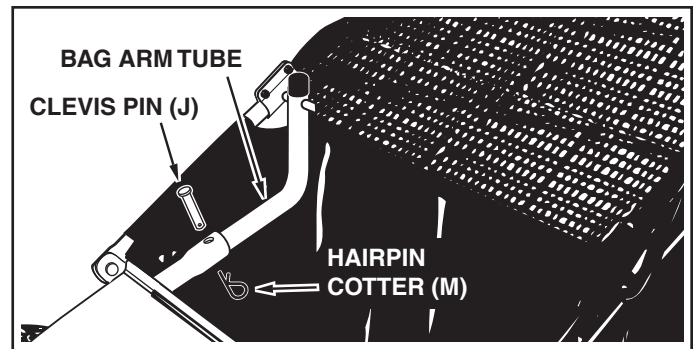

FIGURE 20
STEP 22: (SEE FIGURE 20)
- To attach the hopper bag to the sweeper, slide the ends of the bag arm tubes into the ends of the hitch tubes and secure with two clevis pins (J) and hairpin cotters (M).